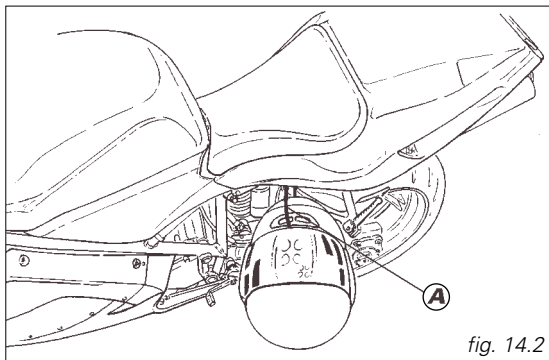

fig. 14.2
On the rear end of the compartment underneath the seat, there is the helmet fastening cable. Insert the cable (A) into the helmet and insert the ends of the cable into the hook. Leave the helmet hanging outside (fig. 14.2) and refit the seat.